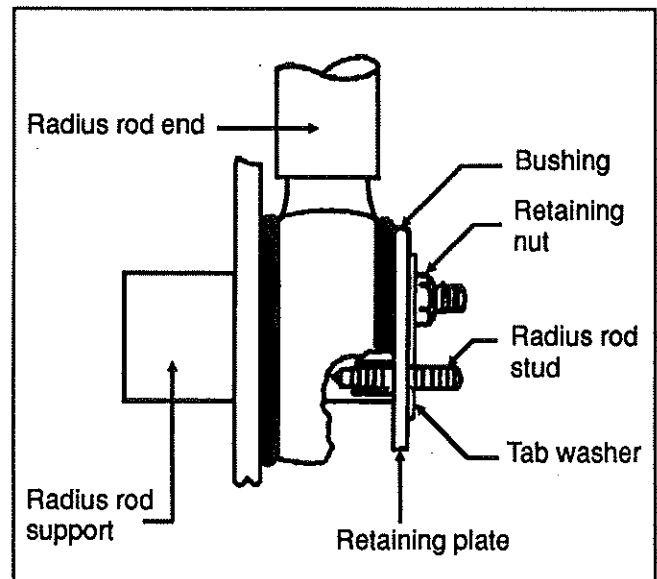

FIG. 19
1. Flatten the tab washer which secure the two retaining nuts, then unscrew the nuts at each extremity (see fig. 19).